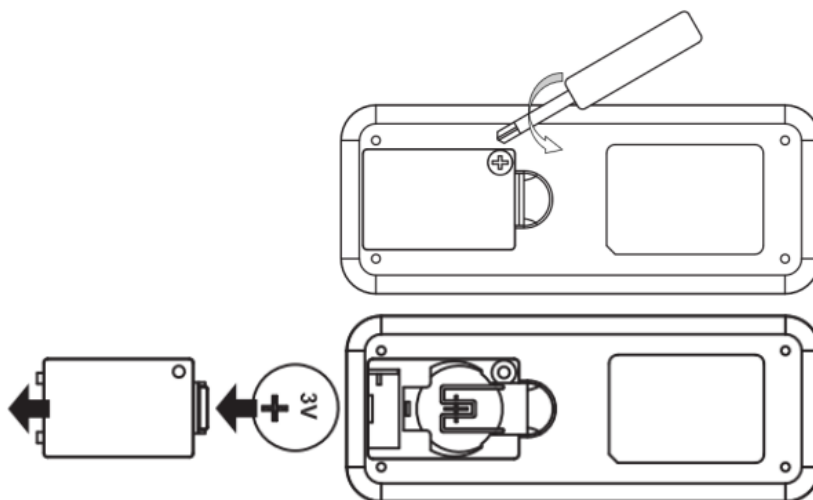

Fig. 11b
1. To replace a new battery, loosen the screw from the battery compartment cover (Fig. 11b).